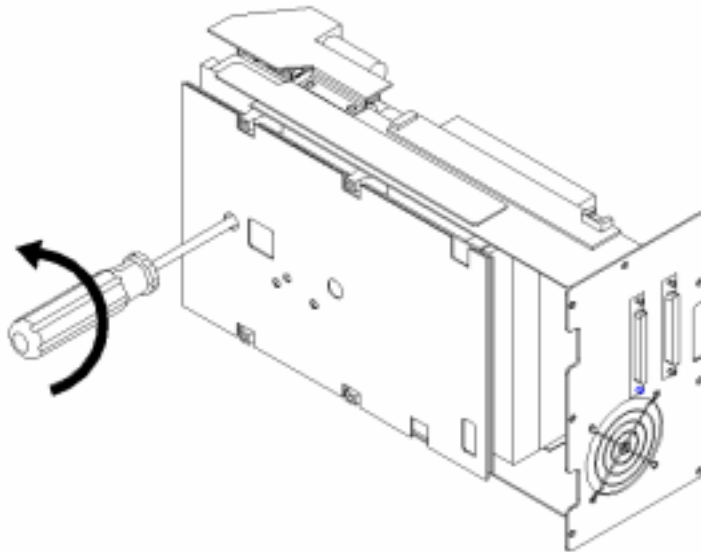

FIGURE 4-7 Rewinding a Stuck Tape
1. When the drive is removed, lay it on its side, as shown FIGURE 4-7.
3. Turn the screwdriver counterclockwise to rewind the tape (FIGURE 4-7).